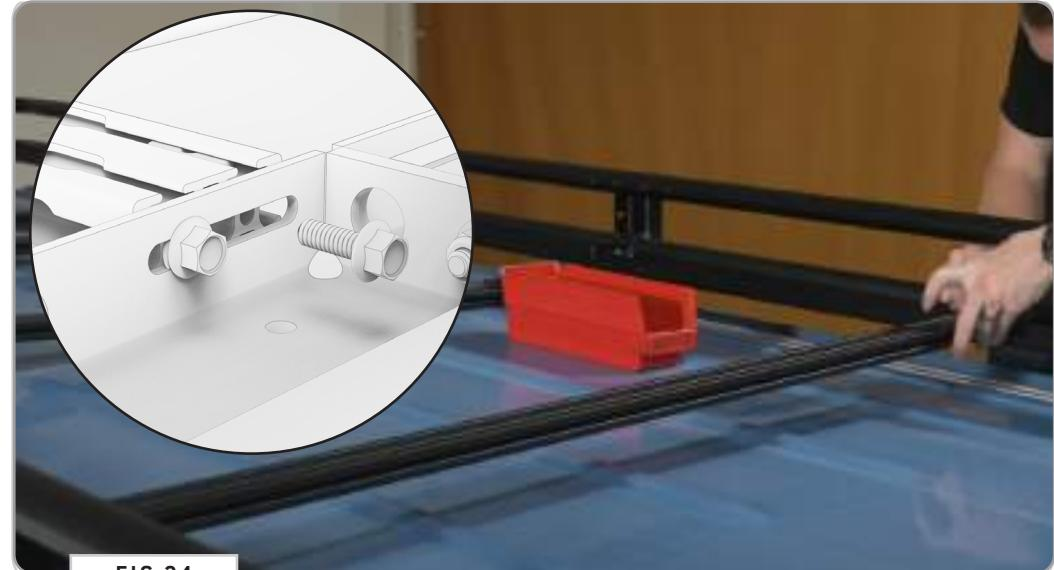
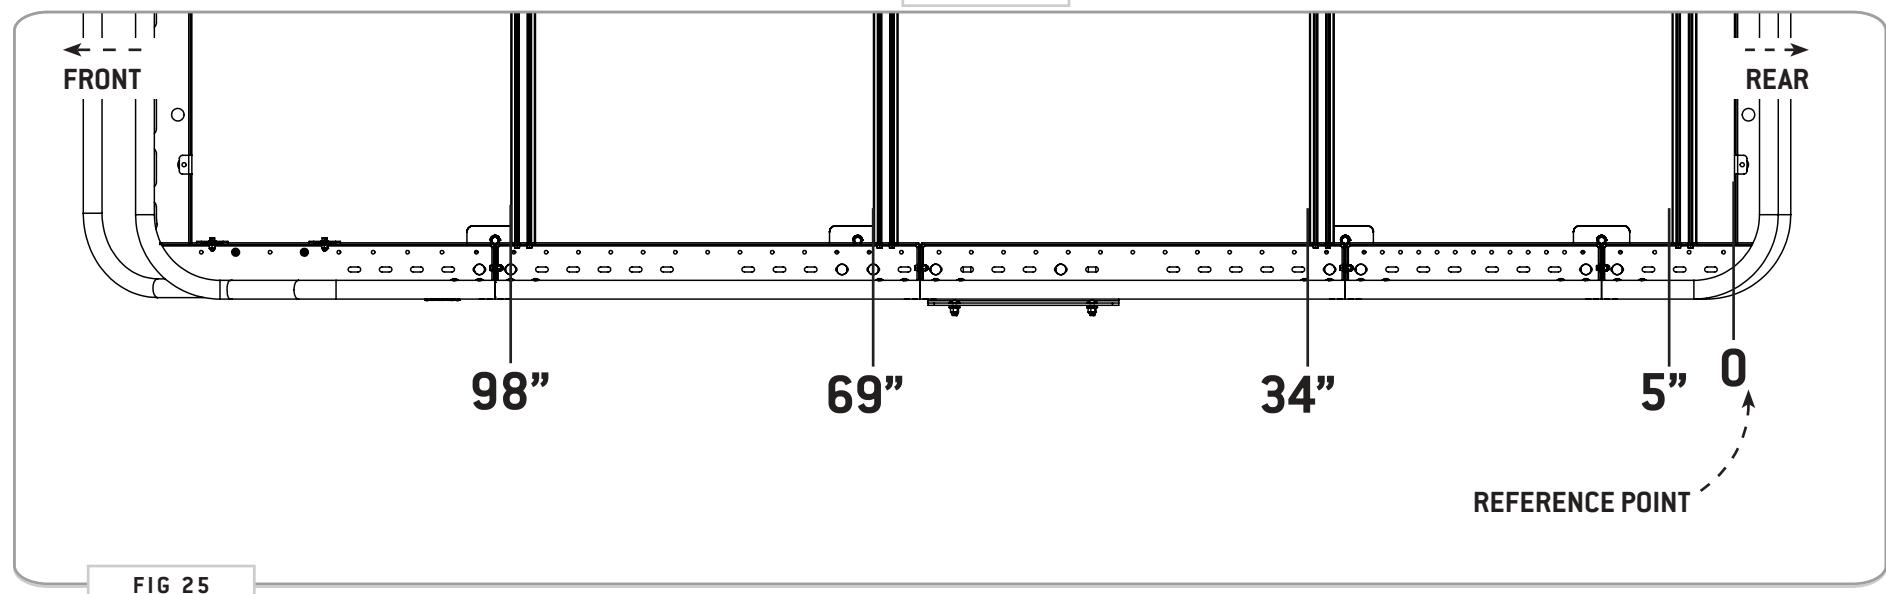

FIG 24
FIG 25
10.1 Attach Crossbars: Using (4ea) 1/4-20 Flanged Hex Bolts with Loctite (FIG 24), attach Crossbars to the rack in the locations shown in FIG 25. Be sure to measure both sides to ensure that the crossbars are square.